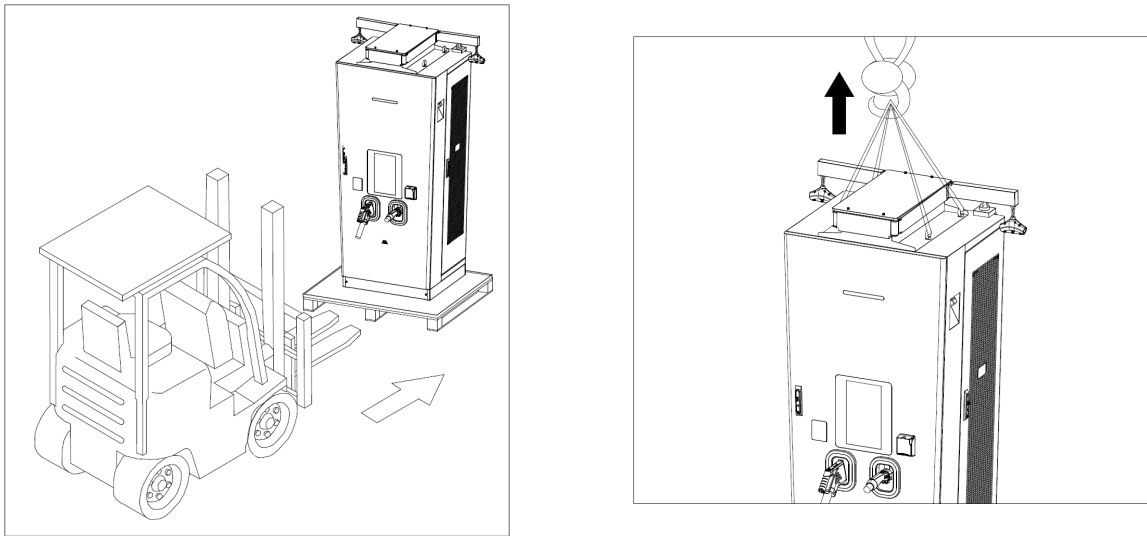

Figure 4.4.3-A
2. Suspend the cabinet above the cement base, open the right door of the cabinet, and extend the embedded cable from the bottom of the cabinet through the inlet hole (the rubber film of the inlet hole needs to be punctured). At this time, slowly lower the cabinet and pull the remaining cables out from the right door until the cabinet is completely placed on the base. As shown in Figure 4.4.3-B.